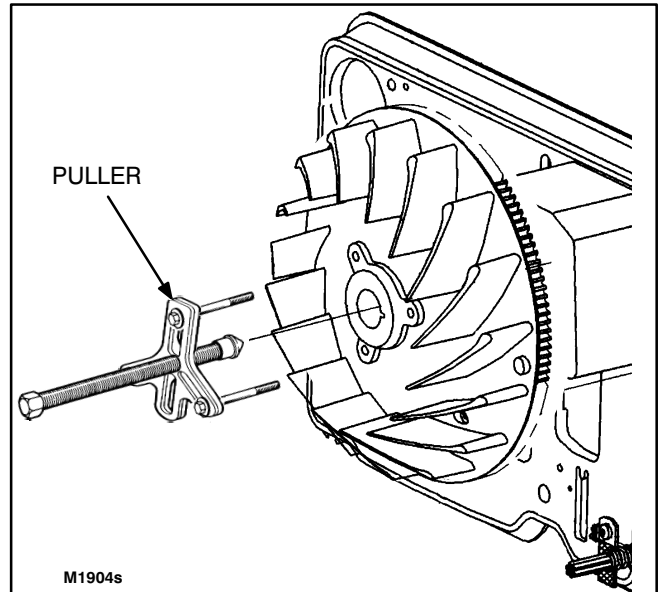

FIGURE 9-3. PULLING THE FAN HUB ASSEMBLY
10. Remove the alignment key from the end of the rotor shaft and save for reassembly. Remove fan hub assembly with a wheel puller (Figure 9-3) Attach the wheel puller to the fan hub assembly with three 5/16-inch thread tapping cap screws (or tap fan hub with 3/8-inch tap and use 3/8-inch cap screw).